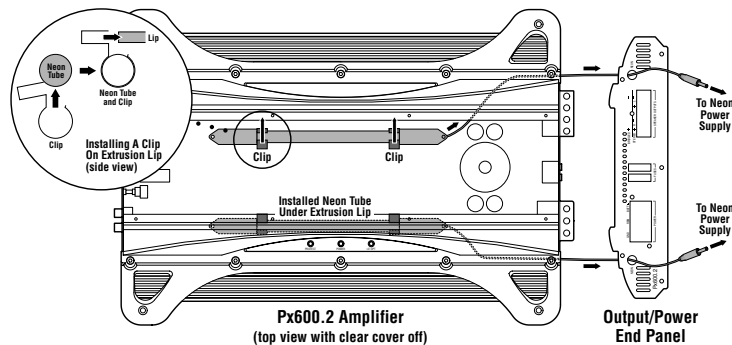

Figure 9.
4. Locate the enclosed hardware bag and remove the four clips. Each clip has a square end and a larger round end. Using a round end, press two clips onto each neon tube (e.g., Street Glow AN9 or equivalent), as shown in **Figure 9** below.
5. For each tube, align both clips so the square ends slide onto an exposed extrusion edge, as shown in Figure 9. Do not cover any screw holes. When installed correctly, each neon tube will sit under an extrusion and not be visible when viewed from directly above.
6. Route each neon tube's power cable through its respective NEON hole on the end panel (see **Figure 9**).